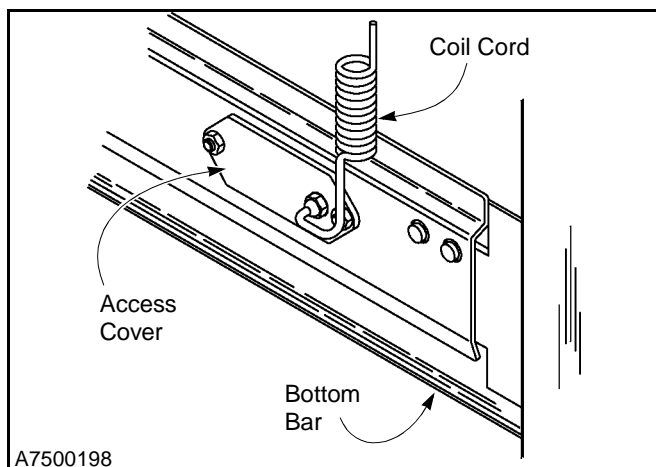

Figure 73
2. Remove the kill switch access cover at the end of the bottom bar assembly. The kill switch is mounted behind the access cover holding the coil cord. (See Figure 73.)